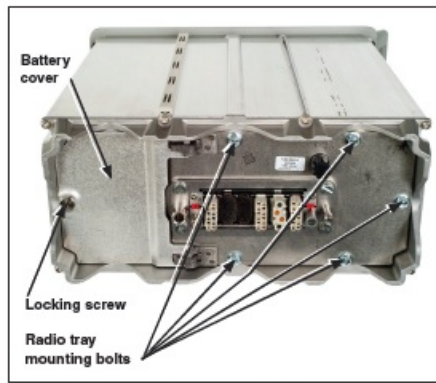

Figure 4. Removing the radio tray bolts.
1. Step 1. Loosen the battery compartment cover locking screw and open the battery compartment cover. See Figure 4.
2. Step 2. Remove the five 1/4–20 bolts that attach the radio tray assembly using a 3/8-inch nut driver. Retain the bolts. See Figure 4.